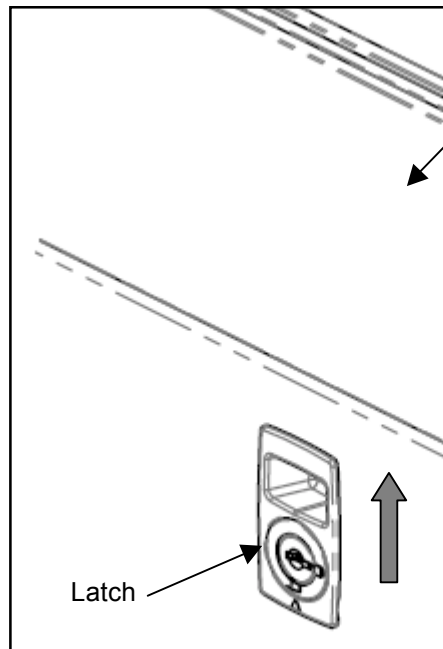

Fig. 3
5. Push up on latch to ensure side panel engagement (Fig. 3).